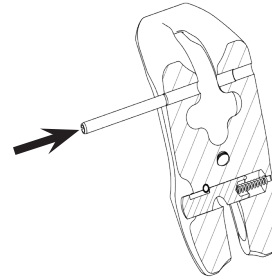

Fig. 31
2. If used again, insert a new matching original RUD locking pin using a hammer (direction as in fig. 31).